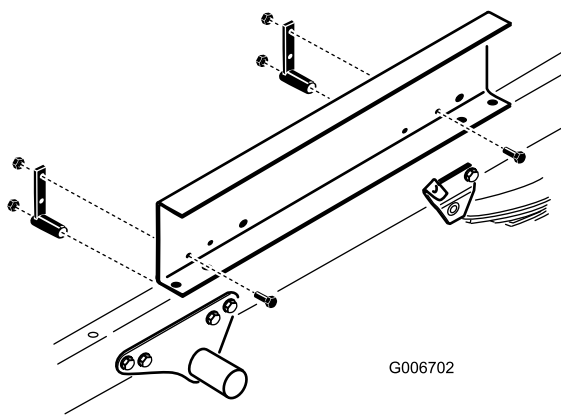

Figure 14
30. Install a new 1/2-13 x 3-1/2" large capscrew thru engine frame and vehicle frame. Insert a lift mounting bracket onto each new capscrew and loosely secure with locknut removed. Bracket to be positioned as shown in Figure 14.
32. Install a new 1/2-13 x 3-1/2" large capscrew thru leaf spring mount and vehicle frame. Insert a lift mounting bracket onto each new capscrew and loosely secure with locknut removed. Bracket to be positioned as shown in Figure 14.
34. Install a new 1/2-13 x 3-1/2" large capscrew thru leaf spring mount and vehicle frame. Insert a lift mounting bracket onto each new capscrew and loosely secure with locknut removed. Bracket to be positioned as shown in Figure 14.